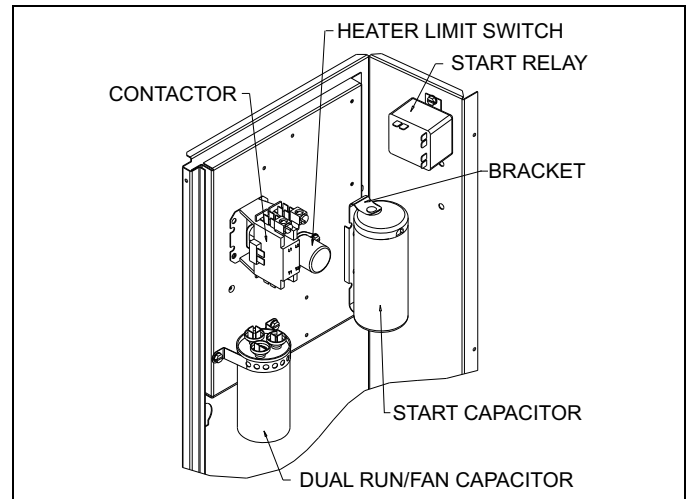

FIGURE 8: 18 & 24 BTU
1. Use the pilot hole behind start relay sticker to attach start relay. see Figures 8 & 9.